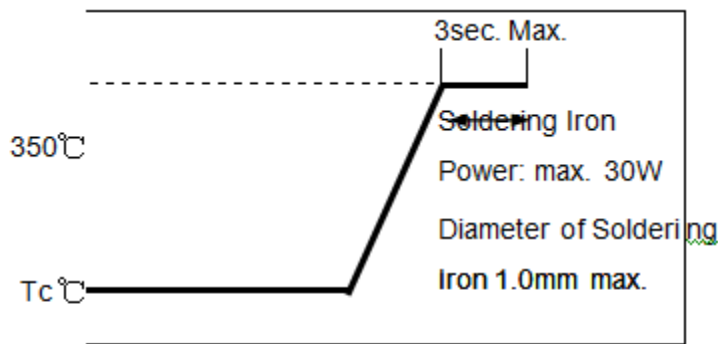

Fig. 2-1
- Please refer to **Fig. 2-1**.